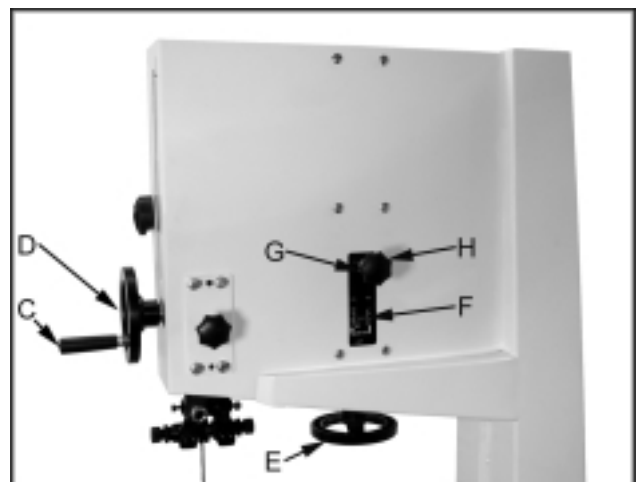

Fig. 2
2. Attach the handle (C, Fig. 2) to the handwheel (D, Fig. 2).
2. Turn blade tension hand wheel (E, Fig. 2) counter-clockwise to tension blade, and clockwise to loosen the tension. A gauge on the upper wheel slide bracket (F, Fig. 2) indicates the approximate tension according to the width of the blade. The JWBS-16 comes with a 3/4" blade so the tension should be set at 3/4" when using this blade.
3. If adjustment is necessary, loosen the wing nut (G, Fig. 2) at the top rear of the saw.
4. Adjust tracking by turning the knob (H, Fig. 2) in 1/4 turn increments. Rotate the wheel forward, and observe the position of the blade on the wheel. Rotating knob (H, Fig. 2) counter-clockwise should move the blade towards the front of the wheel. Rotating the knob clockwise should move the blade towards the back of the wheel.
6. Tighten the wing nut (G, Fig. 2).